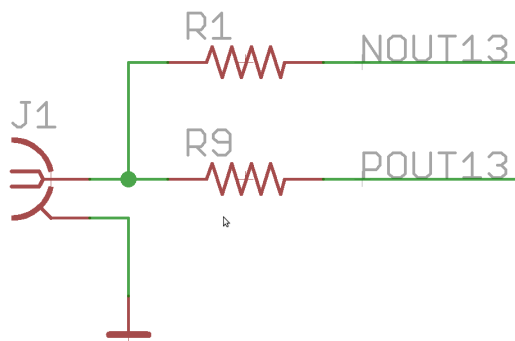

Figure 4: Schematic of the method used to combine the differential signals to a single output on the PixOut board.
- 16 individual SMA sockets for monitoring the pixel signal on an oscilloscope, for example. The differential signals from the PreAmp board are combined into a single output on the PixOut board, as shown in Figure 4.